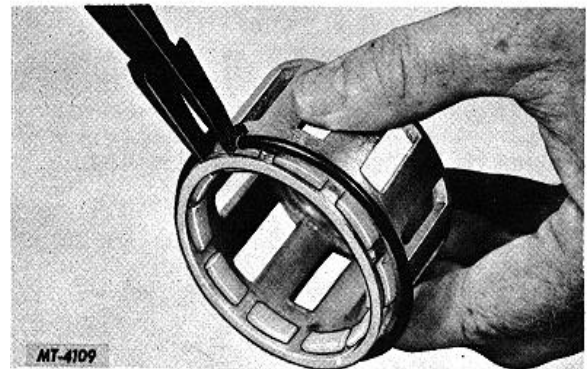

Fig. 17. Removing Friction Shoes and Spring
Remove the friction shoe spring (3) as shown in Fig. 17. Friction shoes (4) may now be lifted out of roller cage (9).